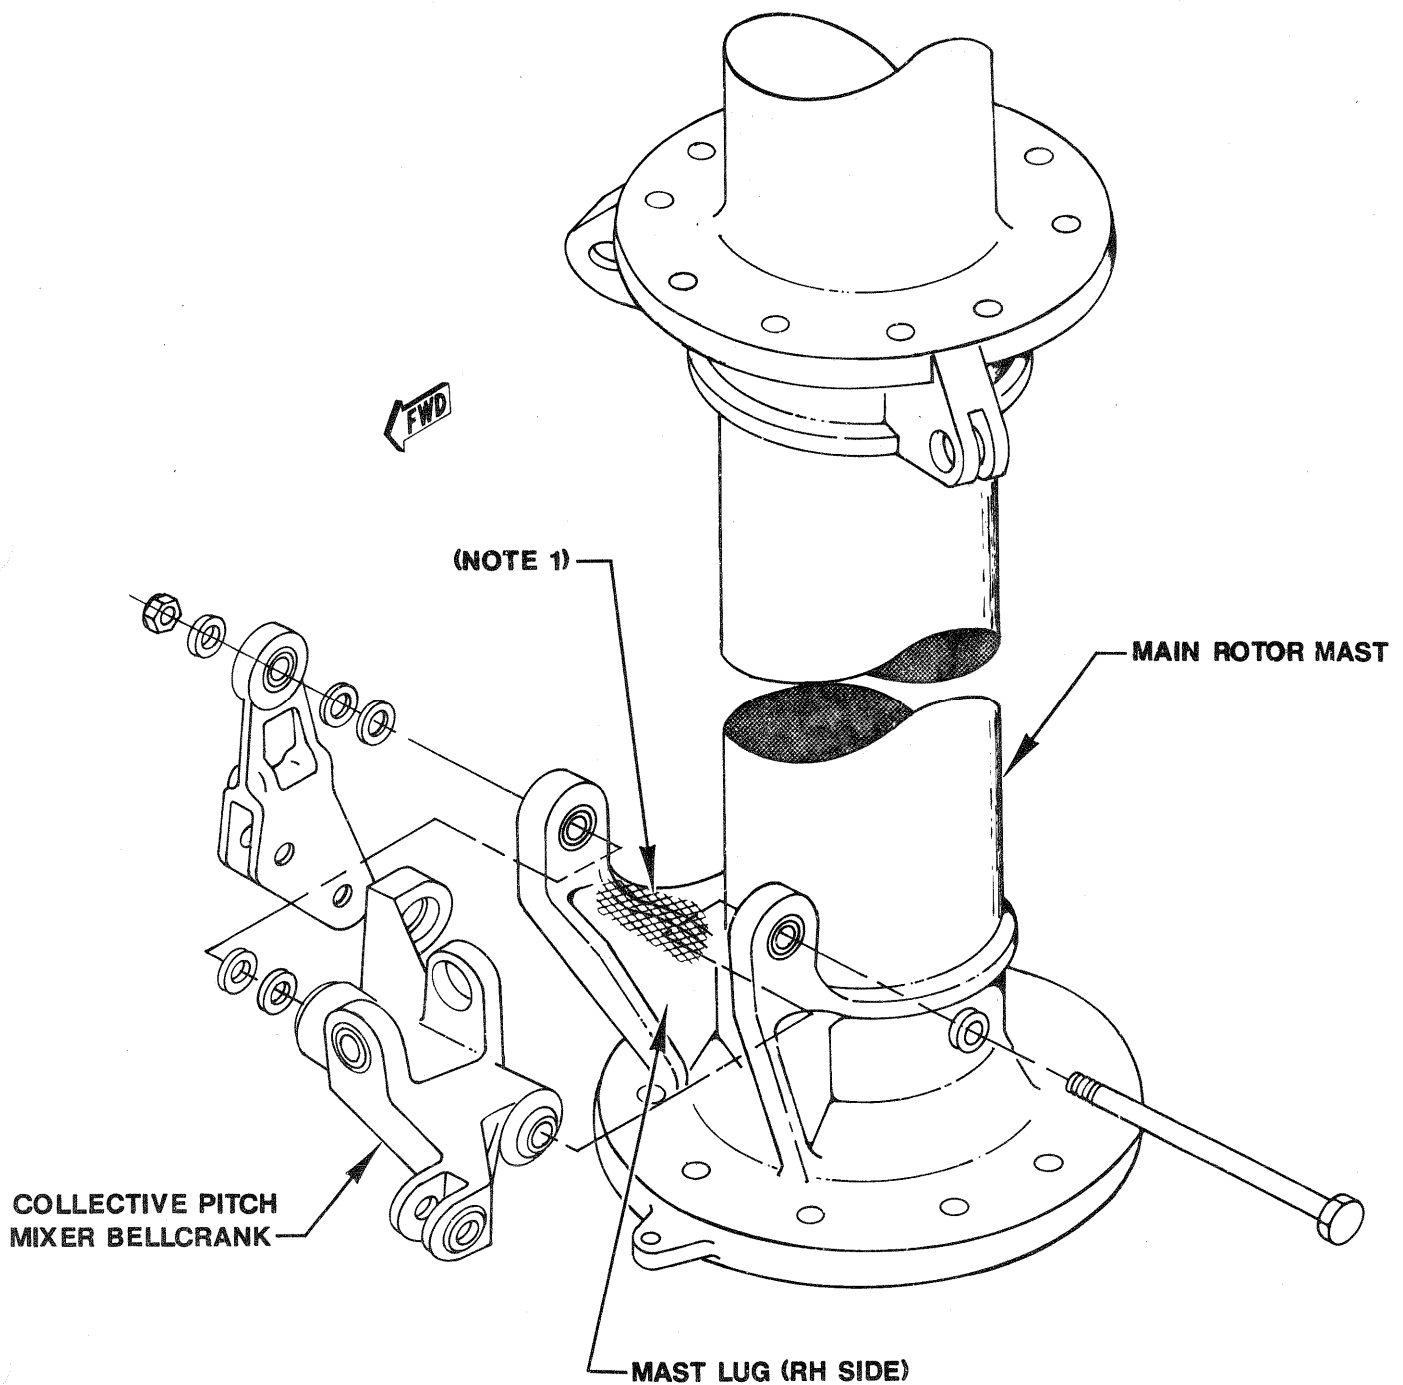

FIGURE 4. DYE-PENETRANT INSPECTION OF MAST LUG
- (4) Check right mast lug for nicks (caused by bellcrank). (Refer to Figure 4.)
- (5) If any nicks are found in mast lug, feather out nicks with a fine file. Polish smooth with abrasive paper.
- (6) If nicks are found, strip paint and dye-penetrant inspect mast lugs for cracks in accordance with Basic HMI, Section 13. If cracks are found, replace mast. If mast is still serviceable, treat lug with Dow #19 and repaint in accordance with Basic HMI, Section 2.
- (7) Repaint collective pitch mixer bellcrank (aft arm) in accordance with Basic HMI, Section 2.